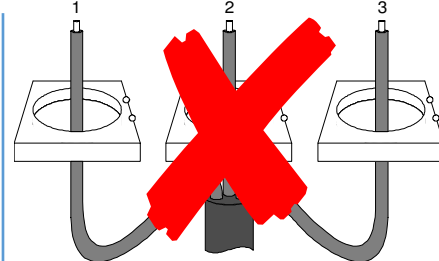

Fig. 3
2. DO NOT pass individual conductors through separate toroid's as shown in Fig. 3.